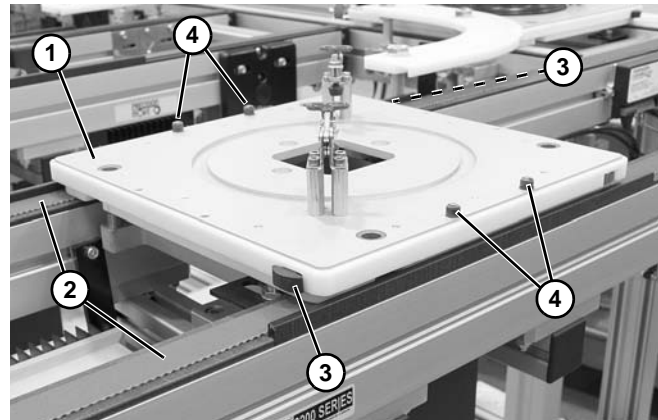

Figure 2
1. Place pallet (**Figure 2, item 1**) on conveyor belts (**Figure 2, item 2**).
2. Make sure that the bumpers (**Figure 2, item 3**) are facing in the direction of travel over the belts. Make sure that the roller pins (**Figure 2, item 4**) are towards the outside of the conveyor rail.